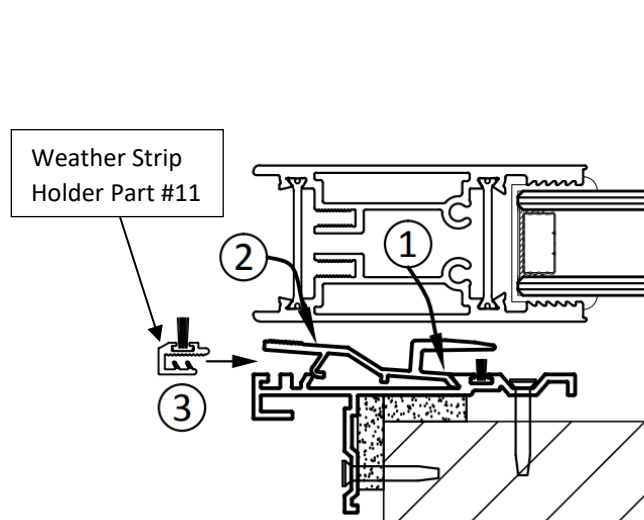

Figure 12a
2. Next, press the pocket interlock (Part #10) in place as shown in figure 12a.